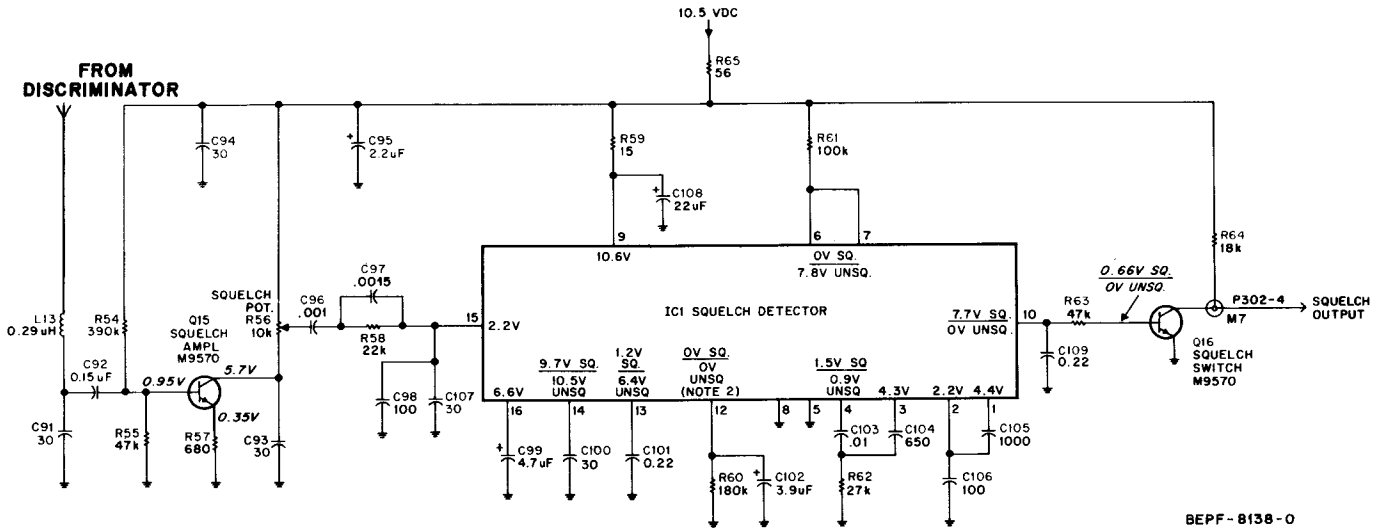

Figure 91. Typical Squelch Stages
(5) Squelch Stages (Refer to Figure 91)